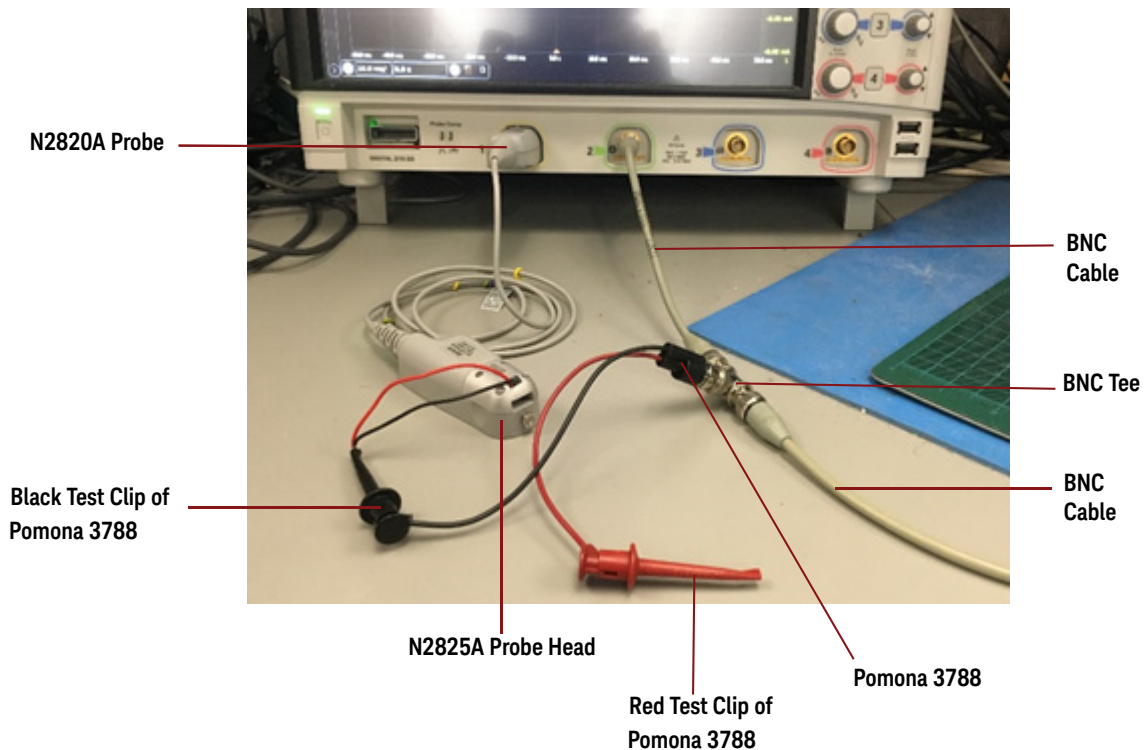

Figure 30 Example of Initial Calibration Setup
- 4 Connect the equipment as shown in Figure 30 on page 65. Observe the following requirements:
- Connect the Pomona 3788 to two BNC cables using a BNC tee. Then connect one of these BNC cables to a scope channel and the other BNC cable to the Aux Output BNC connector located on the Oscilloscope's rear-panel (as shown in Figure 30).
- Connect both the N2825A's sensor leads (red and black wires) to the black test clip of the Pomona 3788 as shown in Figure 30.